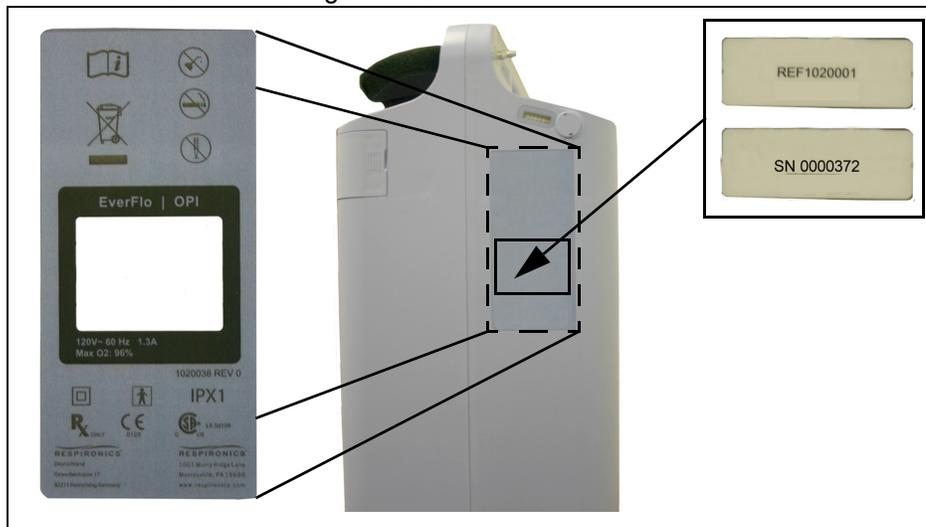

FIGURE 8-30: NEW SERIAL/MODEL NUMBER LABEL PLACEMENT
- Place the two labels onto the Front cabinet and align with the clear section of the new Serial/Warning label included in the front cabinet repair kit. Refer to Figure 8-30.
- Place the Serial/Warning label over the generic labels and onto the Front Cabinet in the proper location. Refer to Figure 8-30.